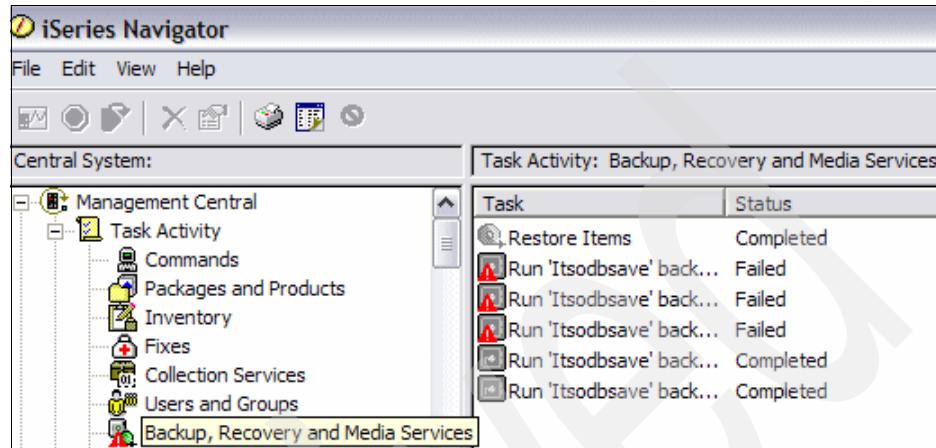

Figure 7-77 BRMS restore, finding out - list of jobs
3. Select **Backup, Recovery and Media Services**. This shows the jobs that were executed and whether their status is completed or failed, as shown in Figure 7-77.